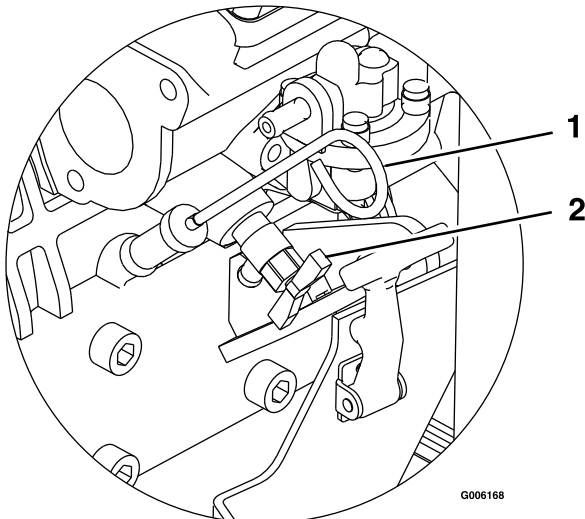

Figure 14
3. Drain coolant when engine is cool. Coolant may be drained from the radiator by removing the drain plug in the right rear corner. The engine block may be drained by removing the rear radiator hose and/or by opening the drain cock on the right-hand side of the engine block (see Figure 14).